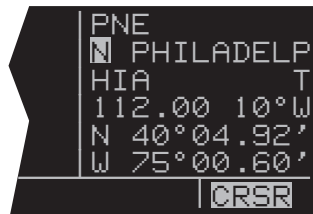

Figure 3-78
- Turn the right inner knob to display the first character of the waypoint name, "N" in this case (figure 3-78).